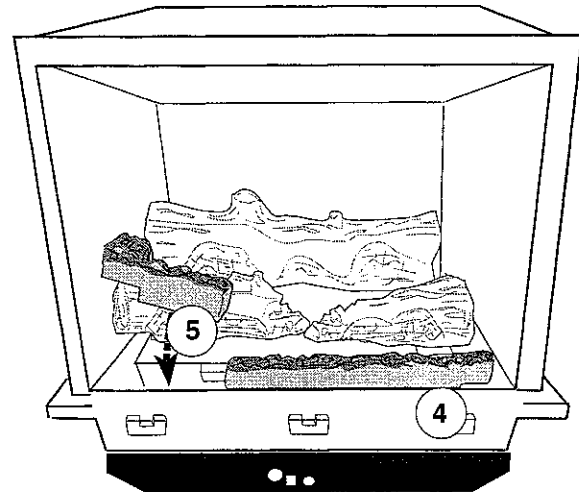

Fig. 21. Install the front ember logs.
- Press the burner assembly fully to the rear. There should be a gap of about 13/16" between the front of the burner and the inside front wall of the firebox. Place the two front ember log sections (#4 and 5, Fig. 21) in the slot at the front of the firebox, just in front of the burner, as shown in Fig 21